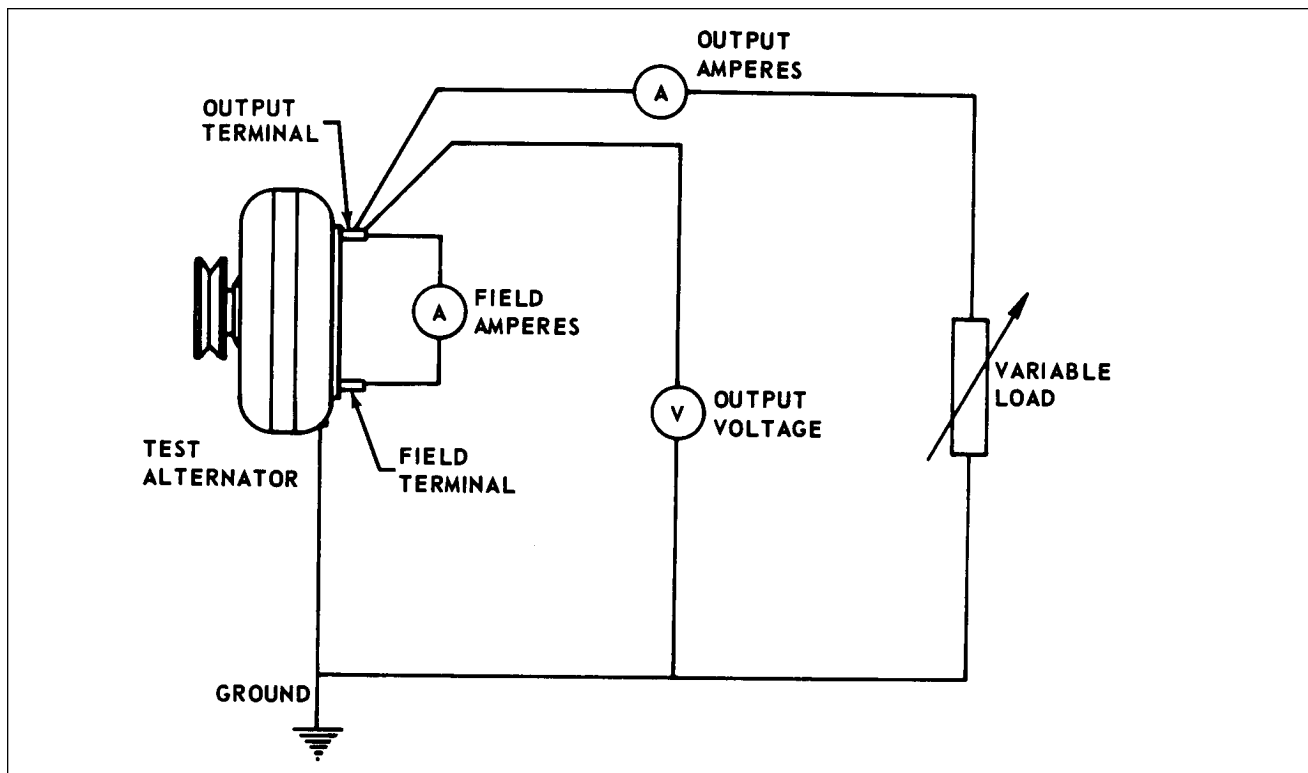

Figure 11-22. Meter Connections for Alternator Performance Test
*For test c and d, external field excitation may be used but must be removed and self excitation used to obtain output amperes. (Refer to Figure 11-22 for meter connections.)*
11-30. BENCH HOT STABILIZATION OUTPUT TEST. To determine the hot stabilized output, the alternator must be driven with a suitable driving mechanism. During this test, the following shall be monitored: (Refer to Figure 11-22 for meter connections.)